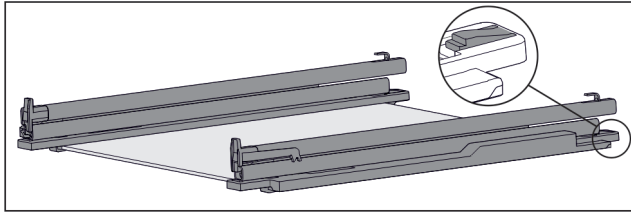

Fig. 120 Glass shelf with rails and retaining parts
- ▶ Press down retaining part at the rear (see Fig. 120) and at the same time push the rail back.